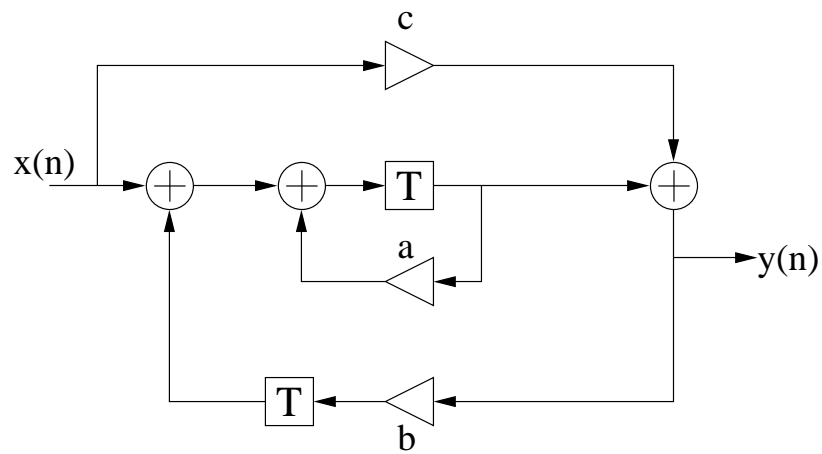

Figure 1: Digital filter for use in Problem 5.
5. The digital filter algorithm in Fig. 1 shall be implemented on a shared-memory architecture with homogeneous non-preemptive processing elements. The processing element has one input and contains a programmable shift, an accumulator. Hence, for an addition, the latency and execution time are both two clock cycles and the inputs should arrive at two different clock cycles (and, hence, the latency of one of the adder inputs is only one clock cycle). For a multiplication, the number of non-zero terms in the SD representation of the coefficient determines the latency and execution time. The multiplier coefficient values are